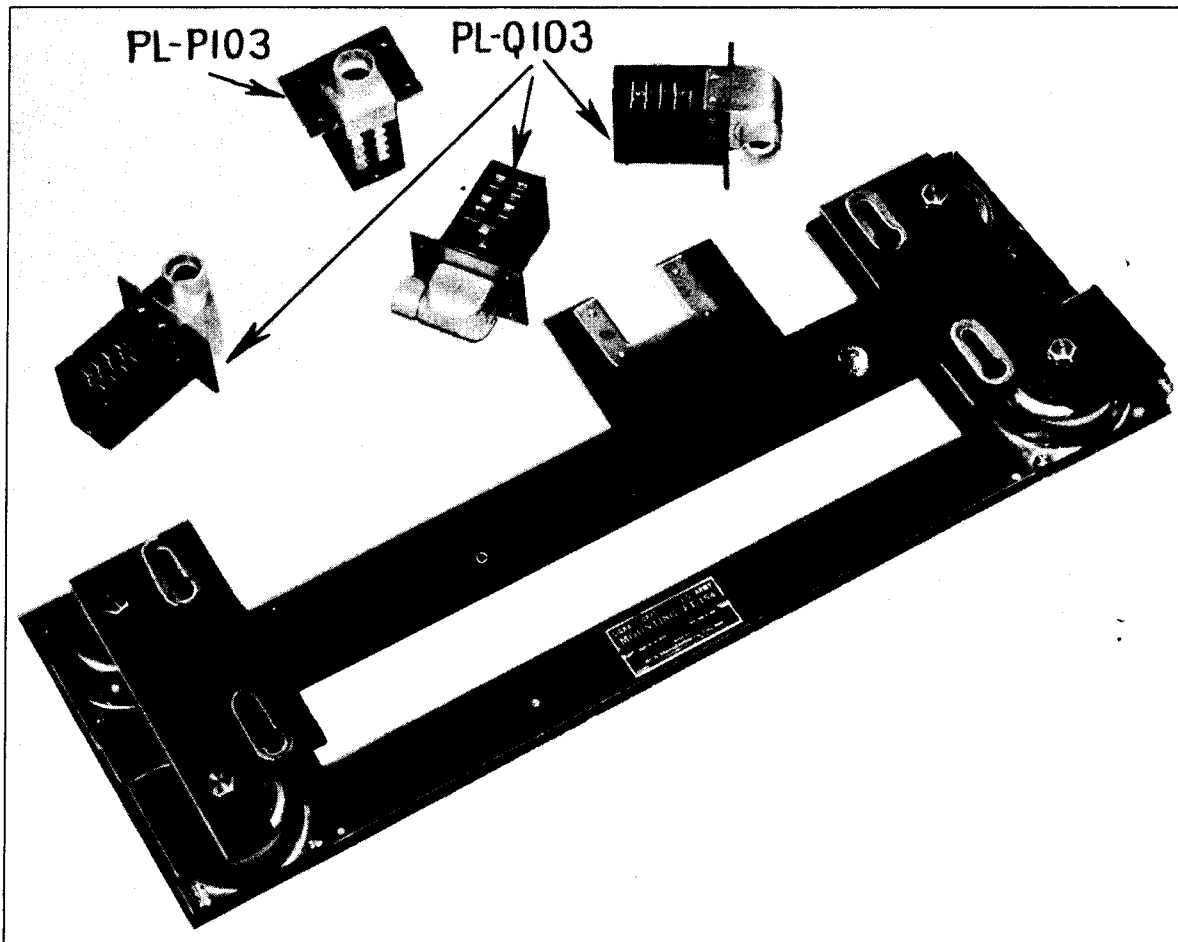

Fig. 13 - Mounting FT-154 and Plugs PL-P103 and PL-Q103
a. The mounting shown in Figure 13 is constructed of stainless steel except for the aluminum base which carries 6 mounting holes and to which are